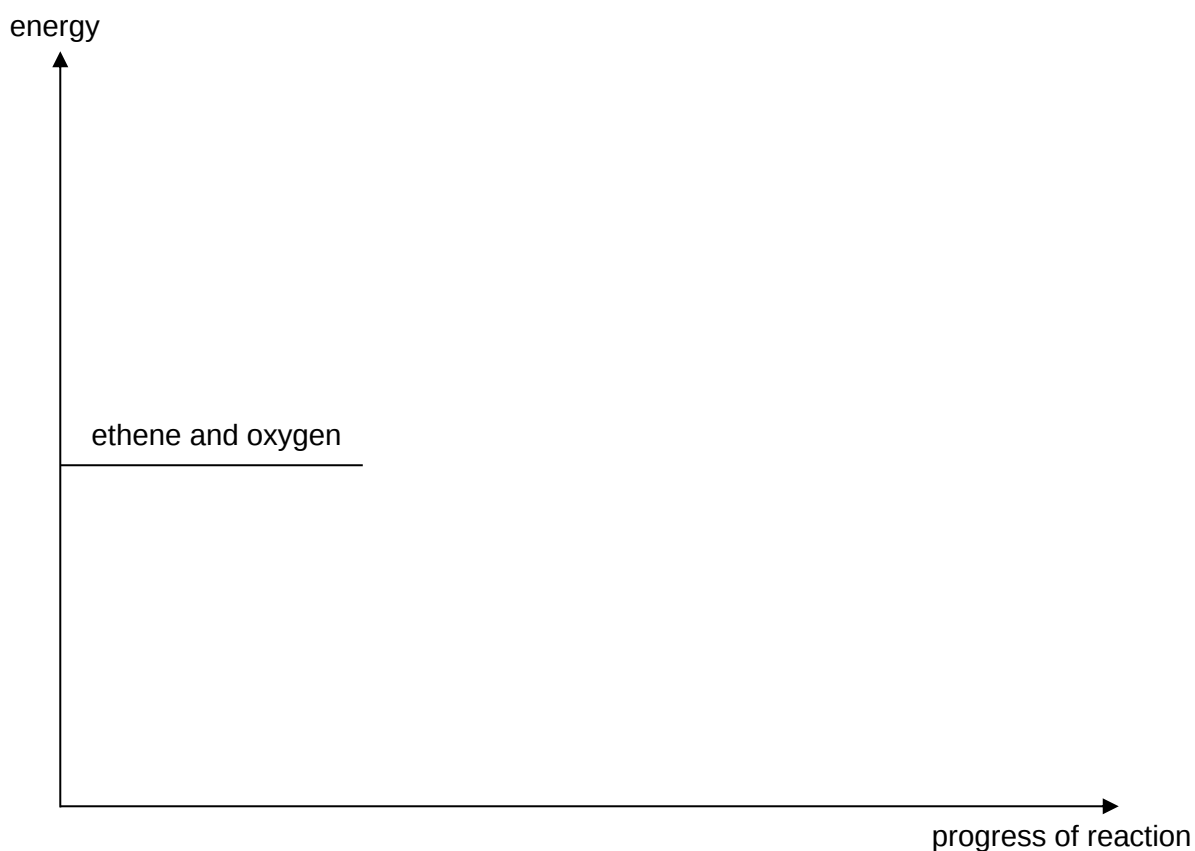

Fig. 10.1
- (b) Complete the energy profile diagram in Fig. 10.1 for the combustion of ethene.